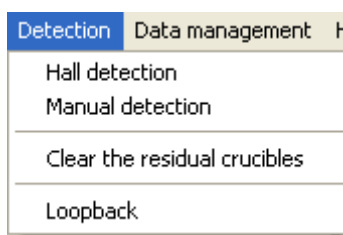

Fig.4-5
4.2.4 Detection menu, as shown in Fig.4-5: